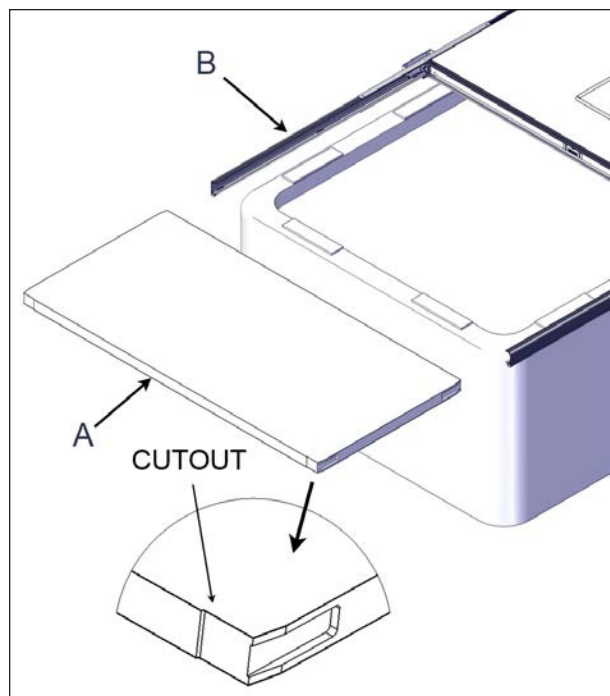

FIGURE 51: EXTRA PANEL INSTALLATION FOR 16' TO 20' LONG SPA MODELS
- Slide in one of the remaining extra panels into the C-channels see Figure 51.
Make sure the panel side with the cut out shown in Figure 51 is pointing outward.